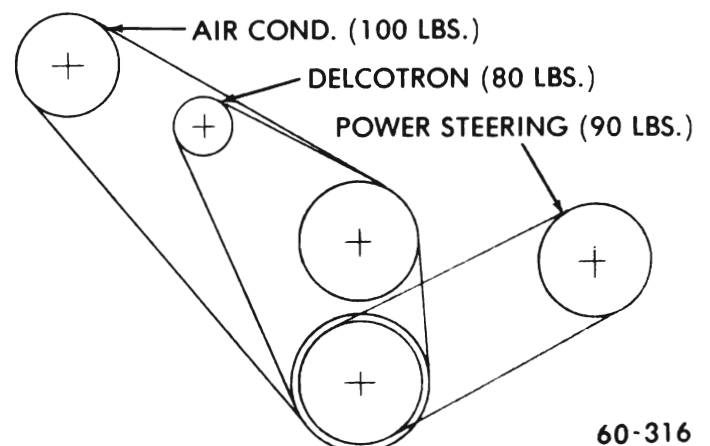

Figure 60-14 Engine Belt Tension Chart
The Delcotron generator must be moved outboard to adjust the fan belt. After the Delcotron generator brace and mounting bolts are securely tightened, the fan belt tension should be checked. See Figure 60-14.
If the power steering oil pump belt is removed it should be adjusted to tension specified, in Figure 60-14.
If the Air Conditioner compressor belt is disturbed it should be adjusted as specified, in Figure 60-14. If A.I.R. pump belt is loosened, it should be tightened to 60 lbs. tension.
3. Install fan pulley or pulleys and fan blade, tighten attaching bolts securely. Install belts and adjust for proper tension. See Figure 60-14.